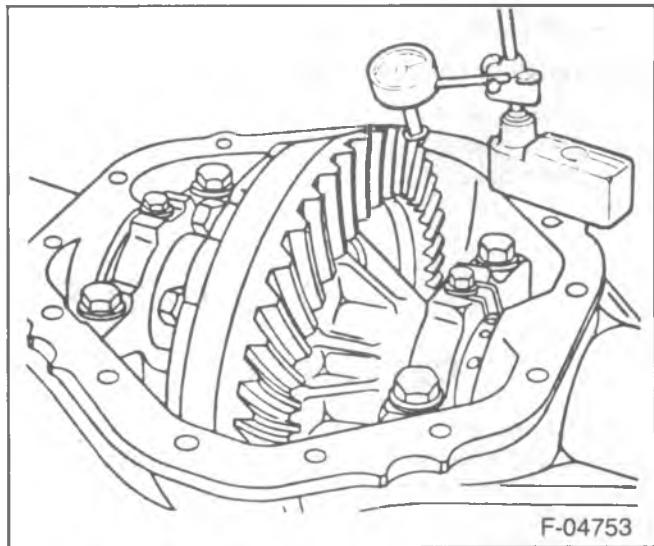

Figure 82—Measuring Gear Set Backlash
- Install a dial indicator to the case using a magnetic base (figure 82).